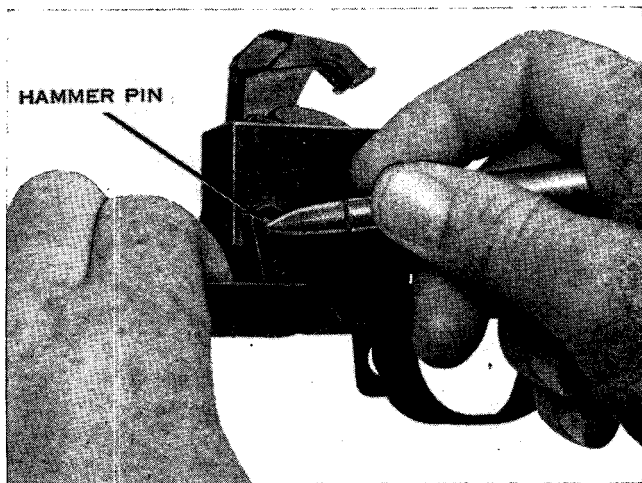

Figure 23. Removing the hammer pin and hammer.
c. Using the combination tool or a dummy round, push out the hammer pin from left to right. Move the hammer a little to the rear and lift it out (fig. 23).